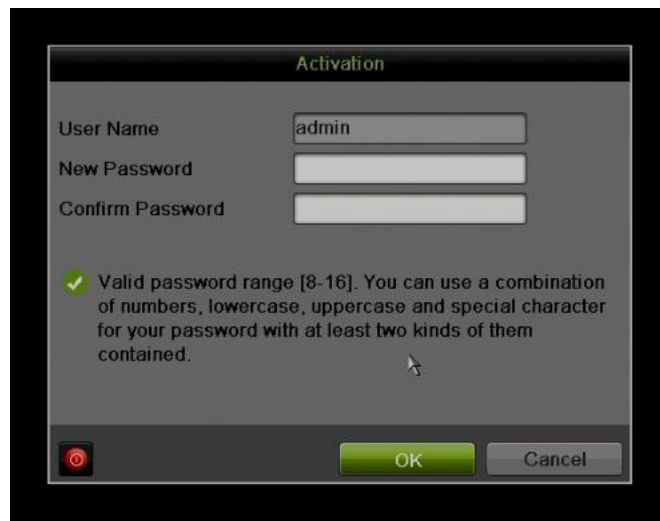

Figure 13 Activation Window
- An activation message will appear on the screen prompting the user to activate the device (**Figure 13**).